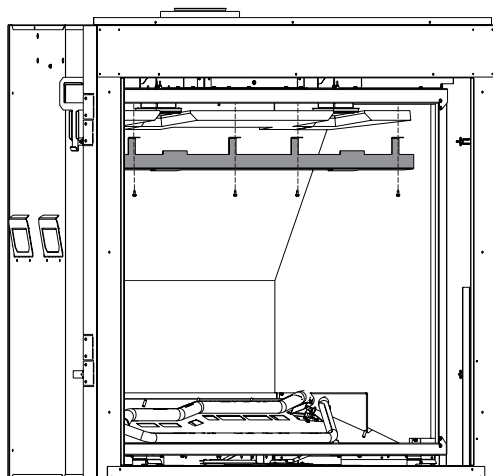

Figure 70
3. Remove the top liner bracket and top liner **See Figures 70 and 71.**